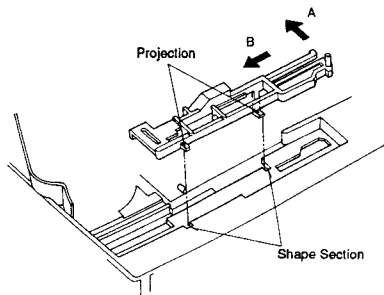

Figure 38
(1) Insert projection of Slide Lever into the shape section of Base. While pressing the Knob in direction arrow A, as shown in Figure 38, move the Slide Lever in direction arrow B until to stop.